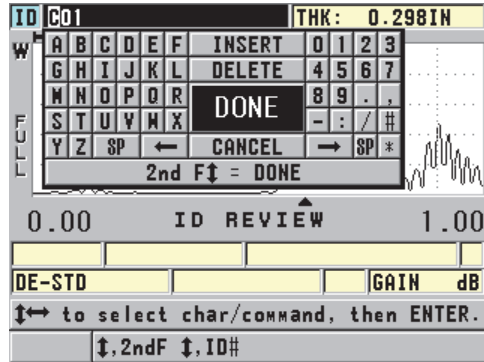

Figure 6-37 Editing the ID # edit mode
- Press **[2nd F]**, **[FILE]** (ID#) again, and then edit the ID value (see Figure 6-37 on page 118).